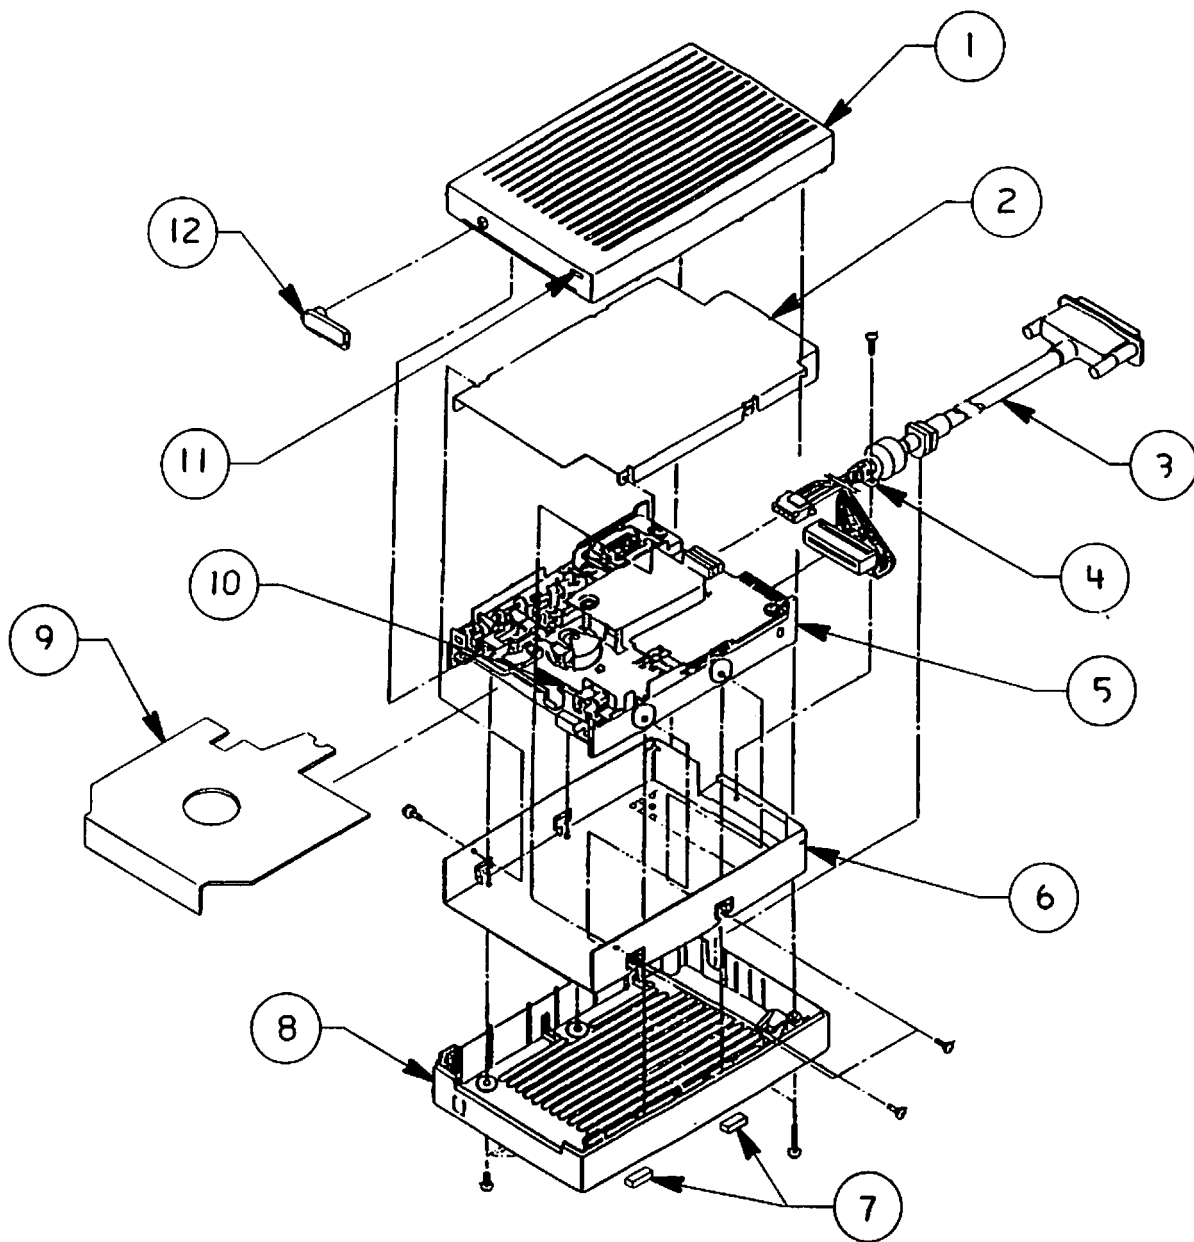

FIGURE 1
IPL.3 Exploded View (Figure 1)
□ EXPLODED VIEW (Figure 1)